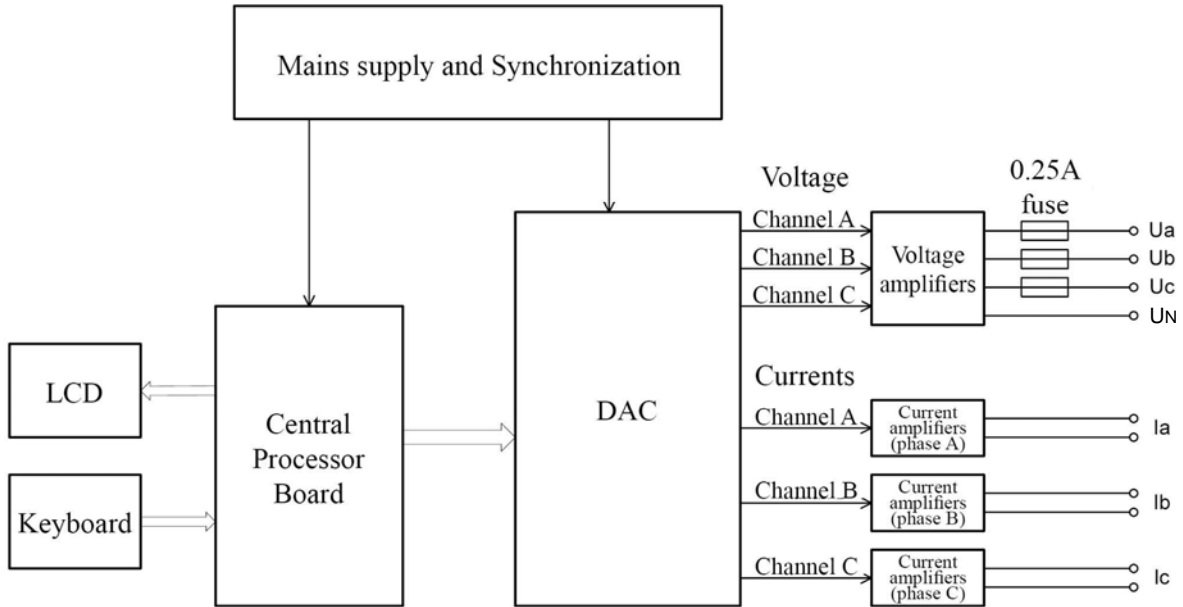

Fig. 2.2. Block diagram
2.3.1. Block diagram of the Generator is shown in Fig. 2.2.